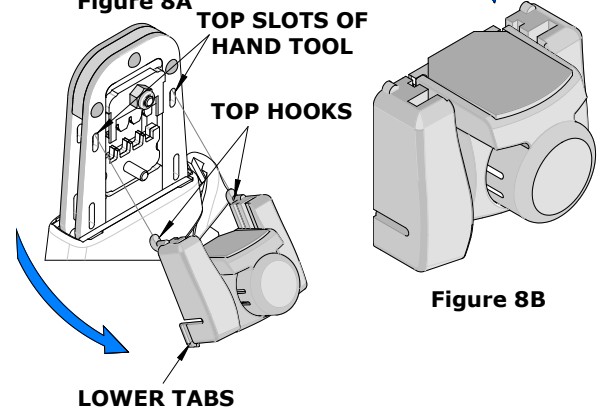

Figure 8B
5. Press the red insert down as far as it will go as shown in Figure 8B.
6. Holding onto the lower part of the locator with your thumb and index finger, insert the locator's top hooks (2) into the hand tool's top slots.